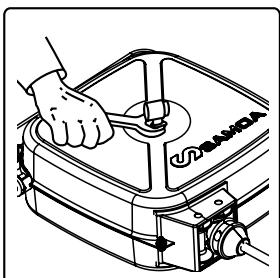

fig. 4a
1. Unscrew and remove the swivel as shown in figure 4a and 5a (see drawing related to the corresponding part nr.).